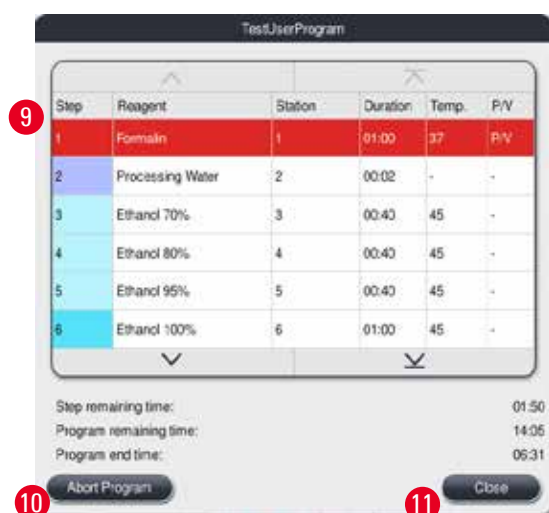

Fig. 69
- **Program Details** button (→ "Fig. 68-6"). Press **Program Details** to view the program details (→ "Fig. 69").